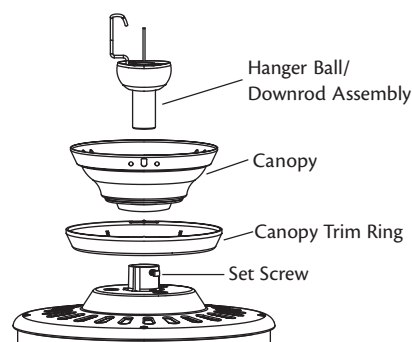

**Figure 11 - Installing the ceiling plate**
- Place a flat washer on each of the two 3" screws and pass the screws through the slotted holes in the ceiling plate as shown in Figure 11.